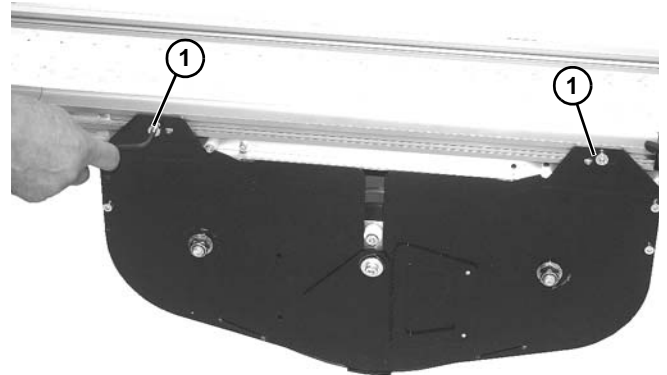

Figure 134
1. Remove two socket head screws (**Figure 134, item 1**) on each side securing assembly to frame.